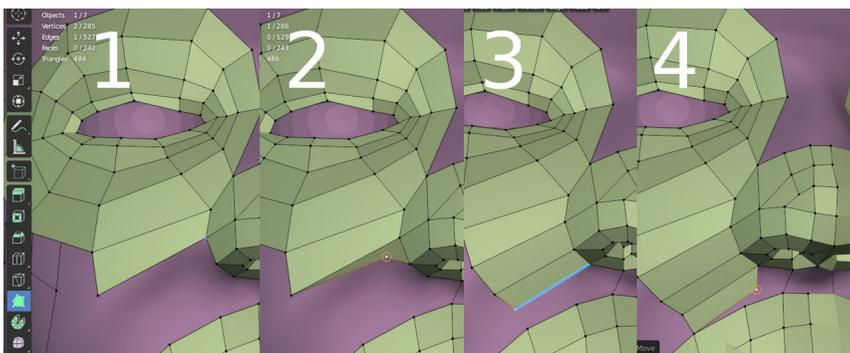

Figure 7-13 Using the Poly Build Tool
2. Move the mouse until a corner vertex is highlighted blue as in Figure 7-13 stage 1. Now press **CTRL** to see the new quad, if you press **CTRL** when an edge is highlighted you will get a new triangle. I find that it is better to press and hold **LMB** very quickly after pressing **CTRL**, before poly build changes its mind. The alternative approach is to press **CTRL** all the time and move the mouse around to get the quad forming where you want it. The latter method is probably quicker in simple areas but the former method seems less frustrating where the topology is already congested. Drag the new vertex to create the correct shape for the quad, as in Figure 7-13 stage 2.
3. To extrude a new quad from one edge of an existing quad, press and hold **LMB** while an edge is highlighted as in Figure 7-13 stage 3. Move the remaining vertex after extrusion by dragging a single blue dot shown in Figure 7-13 stage 4, exactly the same as when using tweak select.
This section on using poly build would not be complete without a mention of two other add-ons that are included in Blender, but not enabled by default. The first is F2 which changes the behavior of the shortcut F such that if a corner vertex is selected, in a similar position to the the blue highlighted one in Figure 7-13 stage 1, you can create a new quad in a very similar way to poly building. The second add-on is Bsurfaces which allows you to draw lines onto a surface using the annotation tool, and then create additional mesh surface by converting the lines to edge loops and filling between them, in a similar way to the edge bridging you used earlier. Bsurfaces can give a massive increase in productivity, especially if you have facilities to draw with a graphics tablet rather than the mouse, however you should learn the basic, manual methods first, in order to derive the most benefit from any add-ons that you decide to use.